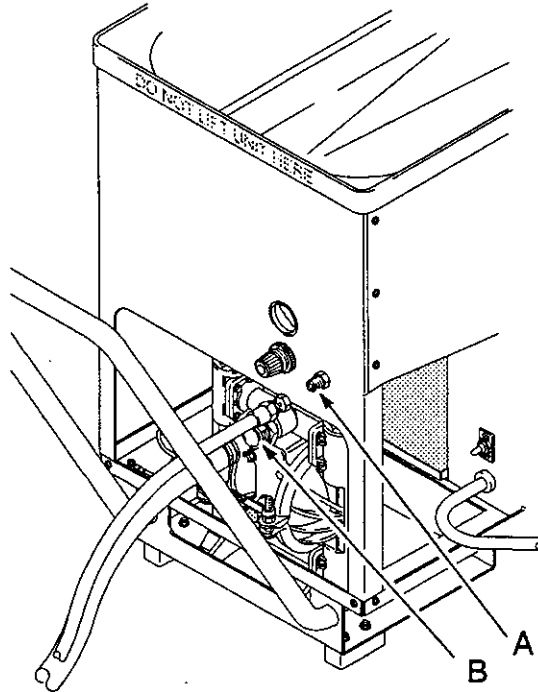

Fig 18-1
2. Disconnect the air outlet hose at (A) and the fluid outlet hose at (B). See Fig 18-1.
3. Pull the pins (54) and remove the handle (2).
4. Disconnect the hose (55) at the hopper.
5. Disconnect the air hose (100) from the back of the air regulator.
6. Disconnect the ground wire (61).
7. Remove the pump mounting nuts (21).